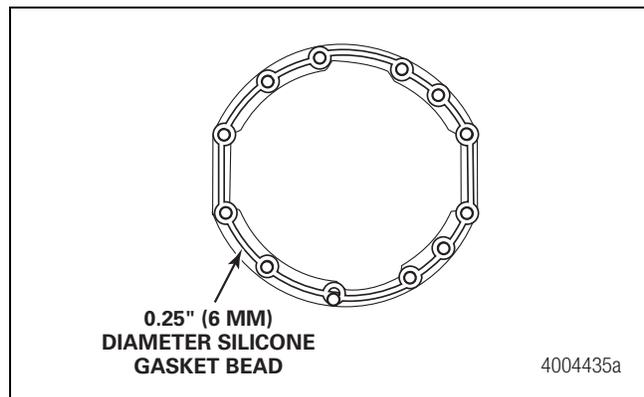

Figure 6.9
10. Apply a 0.25-inch (6 mm) bead of Loctite® 5699 silicone gasket material to the housing face. Do not use ThreeBond 1216E silicone products. Figure 6.9.